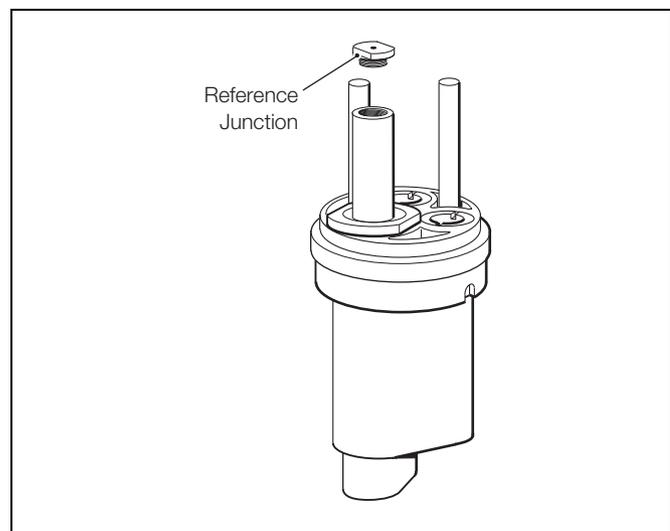

Fig. 3.8 Sealed Types (Electrodes and Temperature Compensator Omitted for Clarity)
8. Invert the sensor holder and remove the reference junction (Fig. 3.8). Check the level of the slurry; top up if necessary. Refit reference junction.